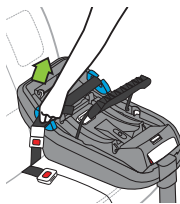

Figure 61a
- Remove slack from vehicle belt around Base by pulling free end of lap-only belt, as shown in **Figure 61a**.